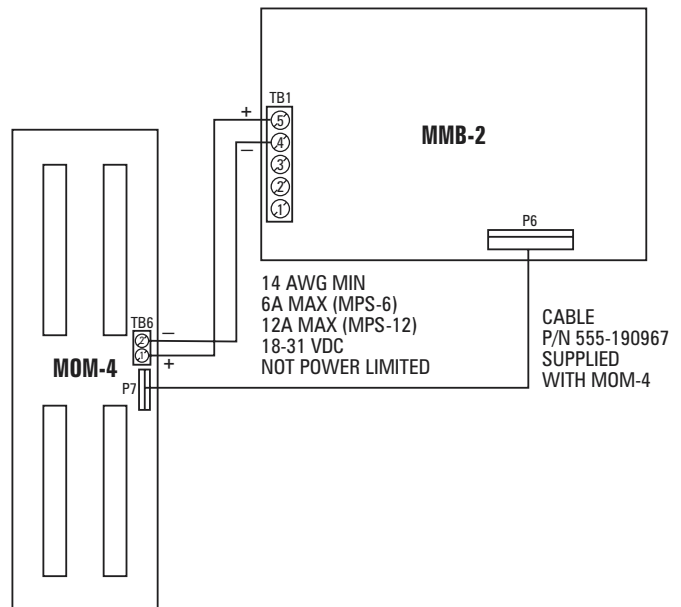

Figure 3
- a. The first is the 24V power connection. P3 provides backward compatibility with the MMB-1 and should only be used when replacing an MMB-1. P3 is limited to 2 amps. The MMB-2 allows the use of either an MPS-6/-6W or an MPS-12/-12W. TB1 terminals 4 and 5 supply 24V to the MOM-4 with a maximum of 6 amps (MPS-6/-6W) or 12 amps (MPS-12/-12W) available. This output must be derated by the total current drawn from NAC1 (1.5A max), NAC2 (1.5A max) and the CZM-1, power (1A max) on the MMB-2. Connect TB1, 4 and 5 on the MMB-2 to TB6, 1 and 2 on the MOM 4. Refer to Figure 3 for the wiring diagram.